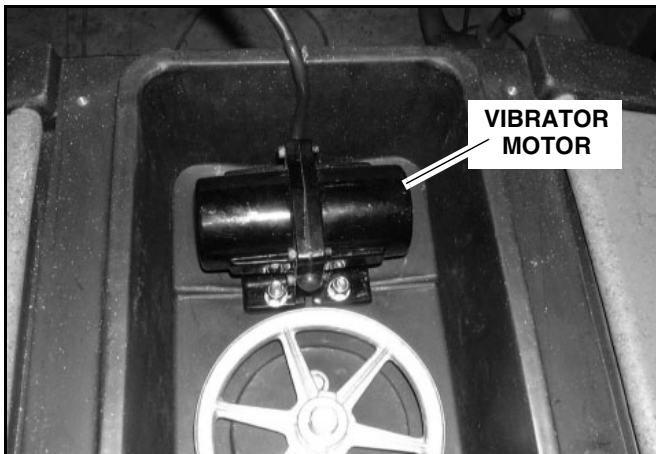

Figure 1
1. Remove motor cover and hardware to access pulley and belt drive. Mount vibrator inside the motor cover section on the 4 Cubic Foot Spreader (See Figure 1) as follows: